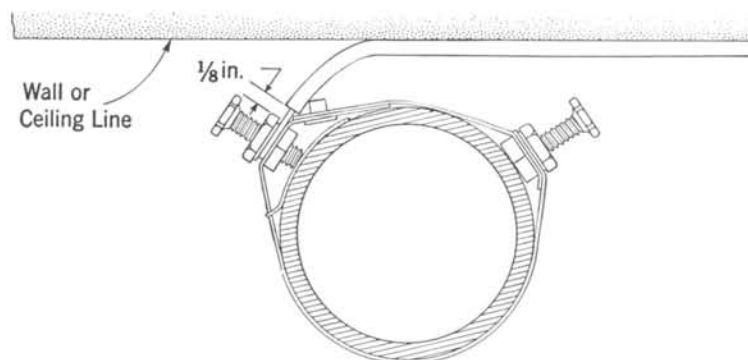

FIG. 3—GROUND CLAMP INSTALLATION—LARGE PIPE
- 4.05 Two clamps may be bolted together if pipe is too large for a single clamp (see Fig. 3).